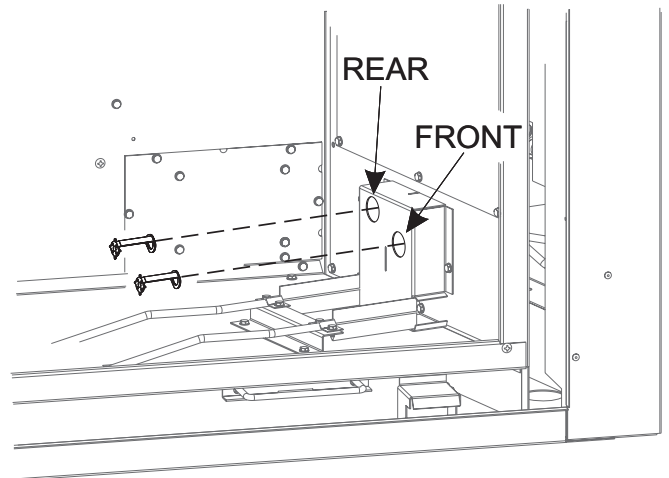

Figure 5
6. Use needle-nose pliers to remove targets and discard. (Figure 5)